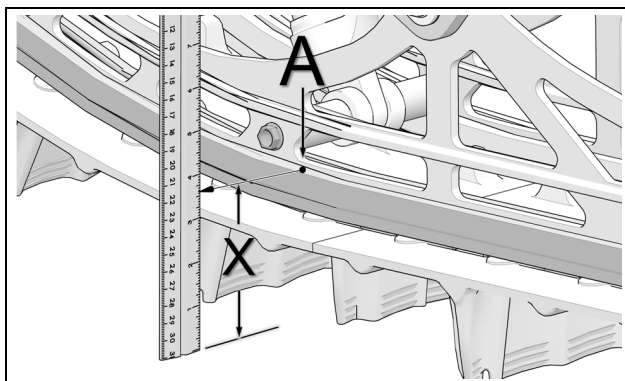

Figure 34
- At the **front** measurement point (**A**), measure distance (**X**) between the top of the rail slide and the ground. See Figure 34.